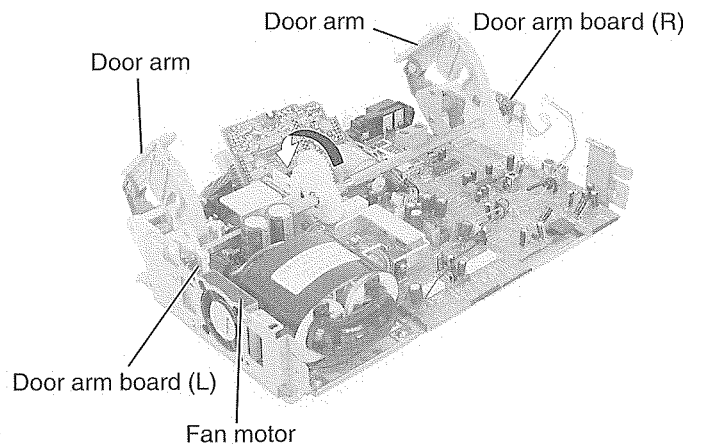

Fig.14
**■ Removing the door arm assembly / the door arm board (R) and (L)**
**(See Fig.14 to 19)**
**ATTENTION:** When the door arms incline, the door arm assembly and the door arm board (R) and (L) may not be removed.
3. Remove the four screws J attaching the door arm board (L) and (R) on both sides of the door arm assembly.